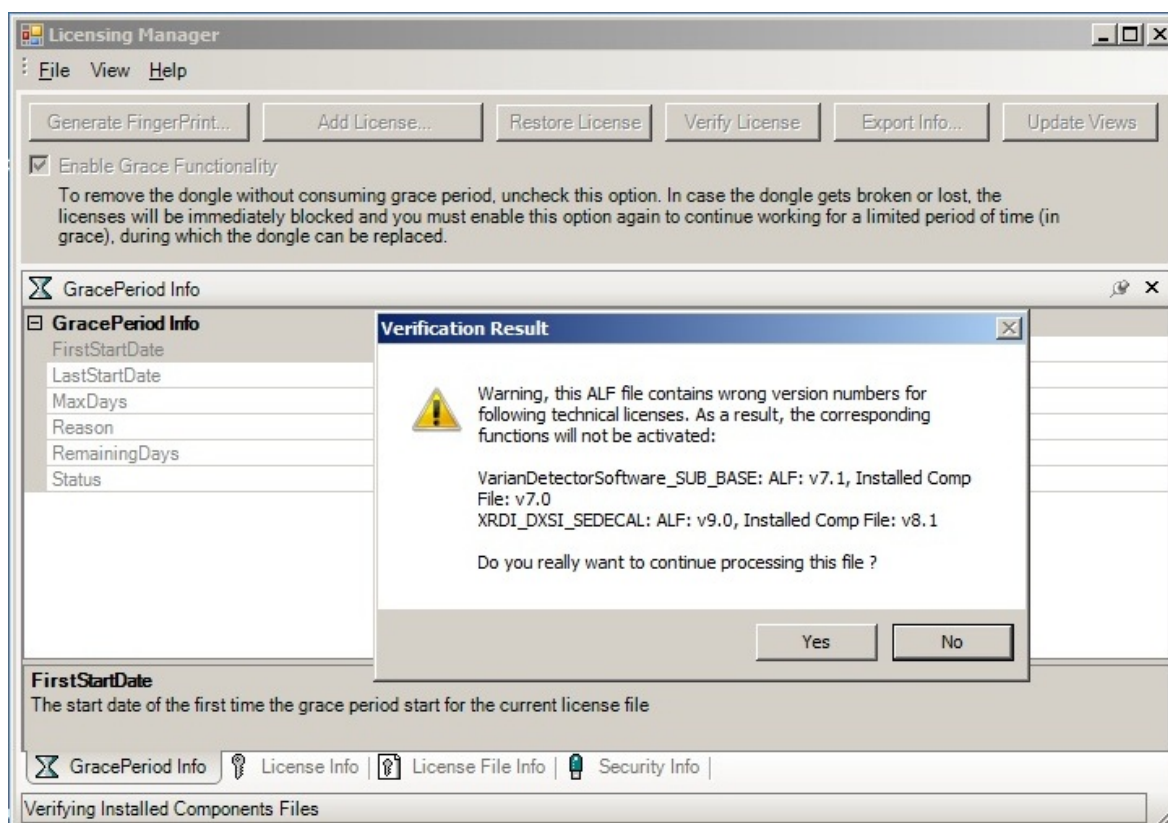

Figure 2
- (23) Click on the ELO icon in the lower right taskbar of the screen; see figure 2.
- (24) Click: <Align>
- (25) Follow the instructions on the screen.